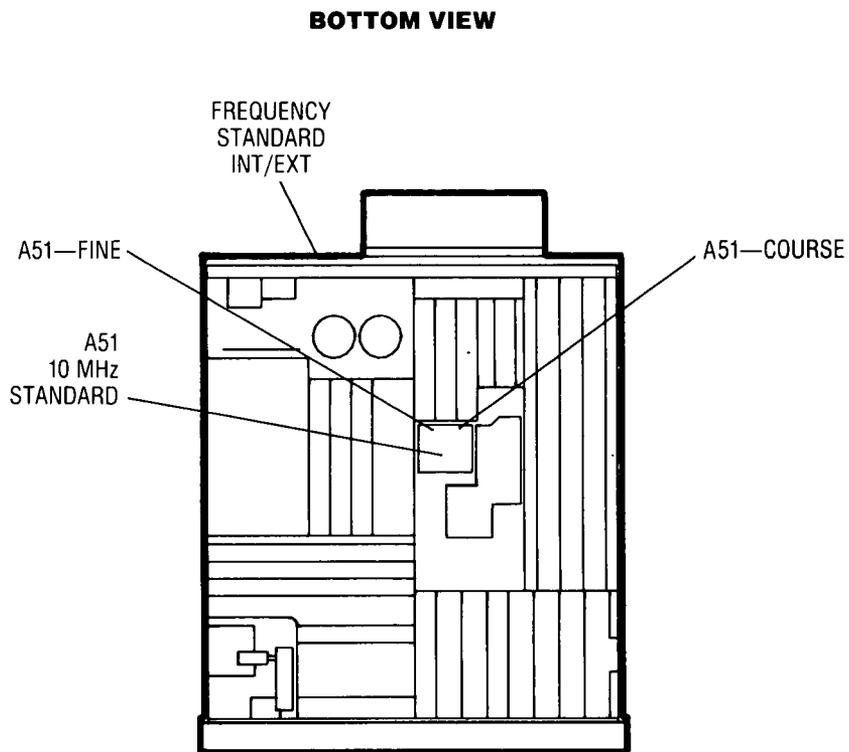

Figure 5-4. 10 MHz Standard Adjustments Location
4. Remove dust cap screws used to seal the adjustments from A51 10 MHz Standard. Refer to Figure 5-4 for location of A51 10 MHz Standard.